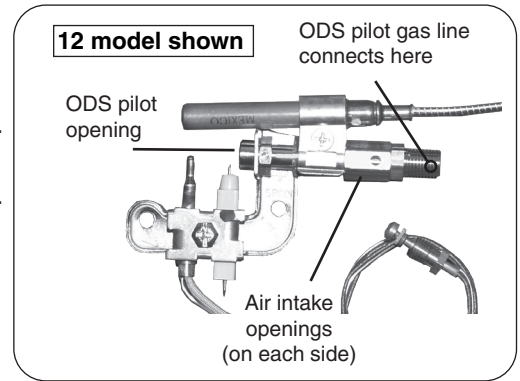

Fig. 24-1
1. Turn the burner system to the **OFF** position and allow it to cool. Inspect the ODS pilot area (see Fig. 24-1) for any visual contamination or debris (usually lint, hair, spider webs, or small insects). Lightly brush off all external surfaces while vacuuming loosened debris from the ODS pilot opening. **Be careful not to brush any foreign material into the ODS pilot opening.**
2. Clean out the air intake openings (see Fig. 24-1) by lightly brushing around the openings while vacuuming.
4. If the ODS pilot flame does not burn as indicated in the instructions, extinguish the ODS pilot by turning the valve to the full **OFF** position. Using a compressed air duster, insert the flexible nozzle through the air intake openings, ensuring that the nozzle is pointed toward the ODS pilot opening (see Fig. 24-1). Blow air through the intake openings to clear out any debris that may be in the system.
5. Relight the ODS pilot and inspect it to be sure it is burning as shown in the instructions. If not, extinguish the ODS pilot and **turn off the gas supply to the burner system**. Using an adjustable or a 1/4" wrench, disconnect the ODS pilot gas line (see Fig. 24-1) from the valve.